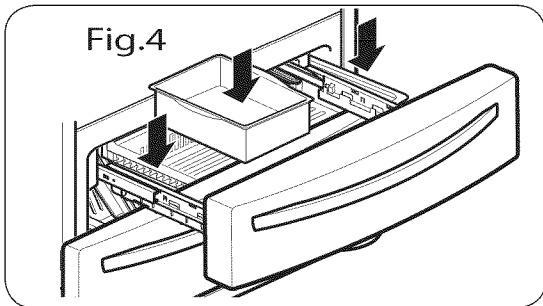

Fig.4
- With the drawer pulled out to full extension, insert the drawer and ice bin in the rail. (Fig. 4)